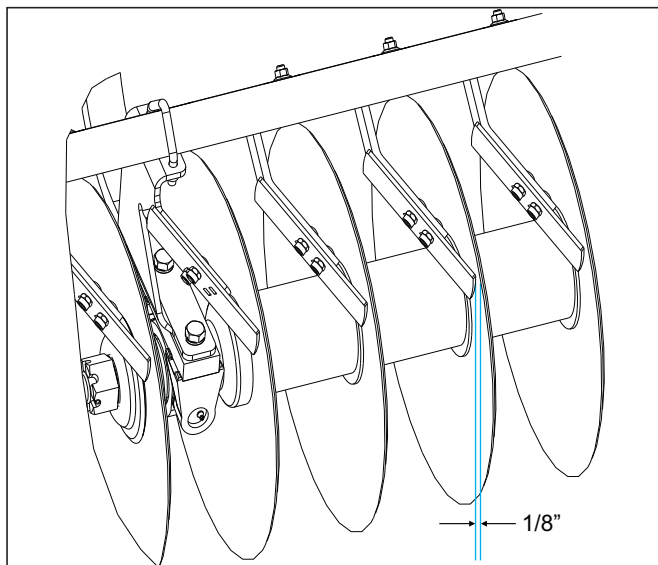

Figure 4-13: Scraper Adjustment
1. Rigid scrapers should be set initially as close to the disc blade as possible without rubbing (approximately 1/8") See Figure 4-13. A slotted hole at the top of each scraper is provided for individual adjustment. Adjustments may be made for entire gangs, by loosening the u-bolts around the angle-iron scraper bars and sliding the whole bar. Scraper arms are made of spring steel. In wet conditions, the scraper may be set against the disc blade and can function as a spring-loaded scraper.